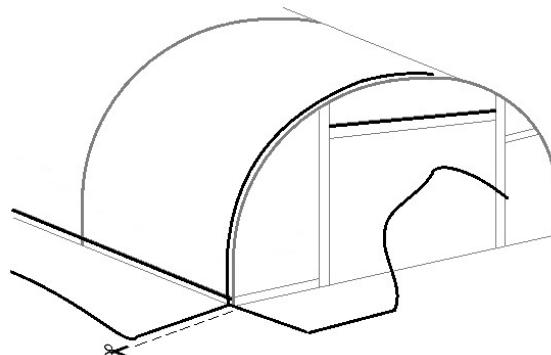

Fig103
- **STEP 3:** With just the four corners and door posts left, it will now be necessary to cut the polythene at the corners, but ONLY in the trench below ground level, to allow the cover to come smoothly around the ends (**Fig103**). It is important that the cover is cut in line with the end of the tunnel, **NOT** the length.